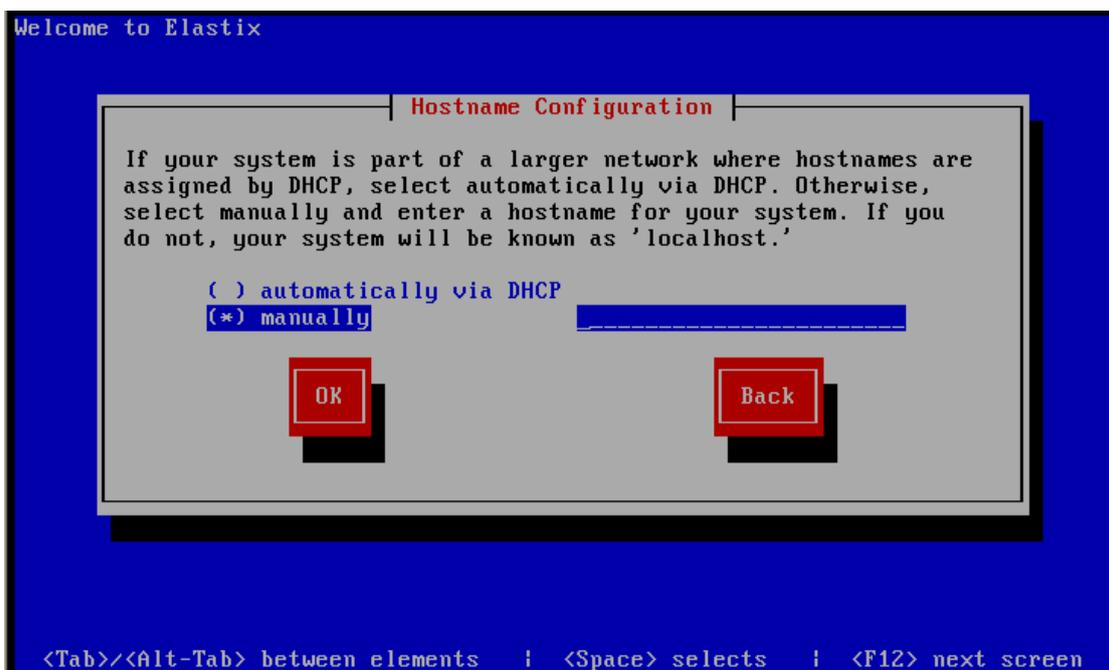

Figure 10
10. Next, determine how to get the hostname, assigned automatically via DHCP or entered manually. Here we select 'manually' and enter a hostname such as 'Synway' on the dotted line (Figure 10).